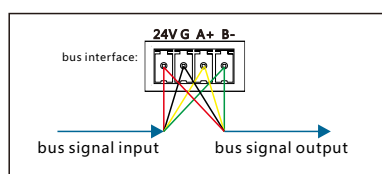

Figure 8. Bus Interface Wiring Diagram
1. Bus Interface: 24V, G, A, B. When cascading with other bus interfaces, do not misconnect (see Figure 8).